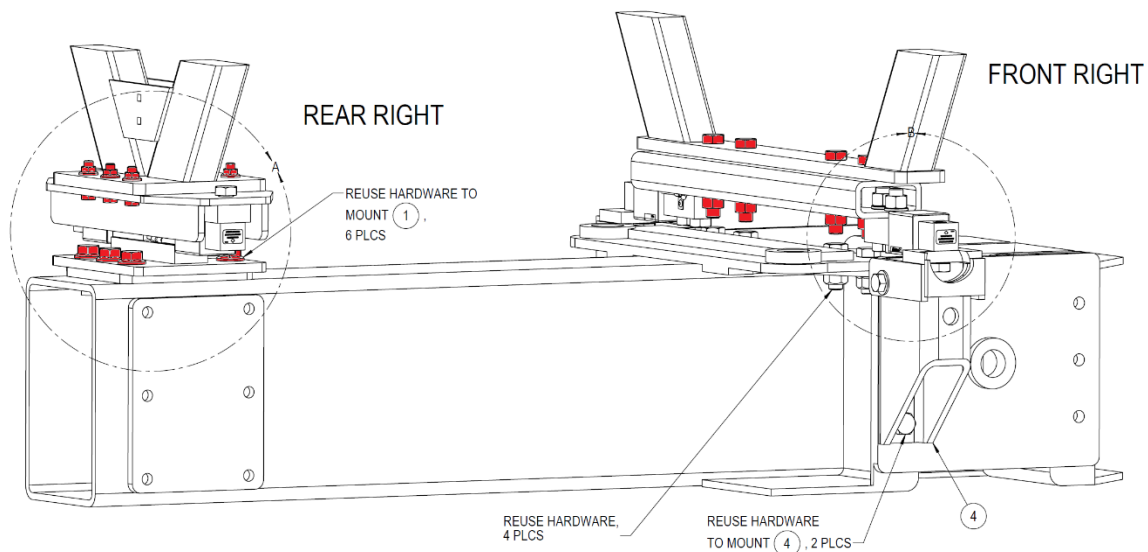

Fig. 11
16. Tighten the six bolts on the rear bottom base bracket, the six bolts on the rear top base bracket and the four bolts on the front top tube. Refer to figure 11.